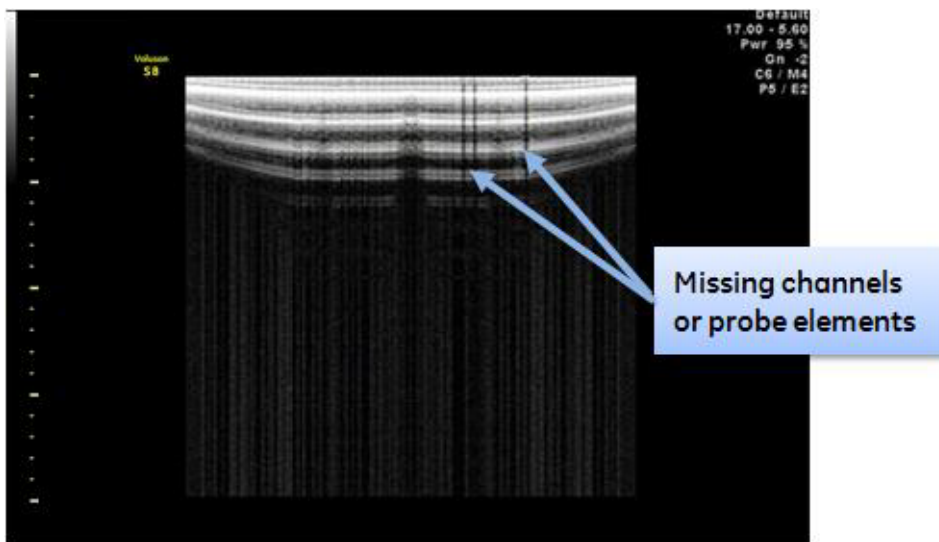

Figure 7-31 Apertur Lateral Min Test
- to display the Console Emulator (see: Figure 7-31 on page 7-29), press the shortcut ALT + S